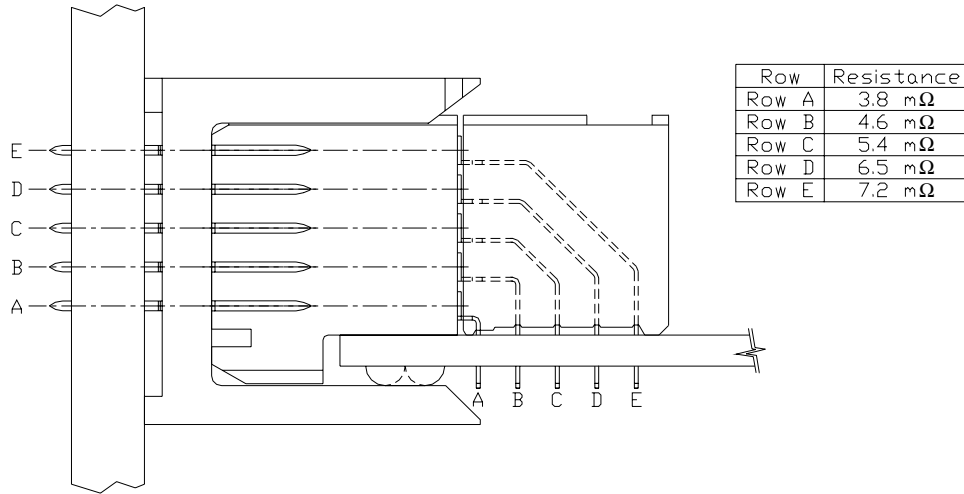

Figure 8 - Mated header and receptacle showing typical bulk resistance per
- The bulk resistance will vary from row to row. The maximum bulk resistance is 10 mW/contact. The typical values of bulk resistance is given in the table in Figure 8.